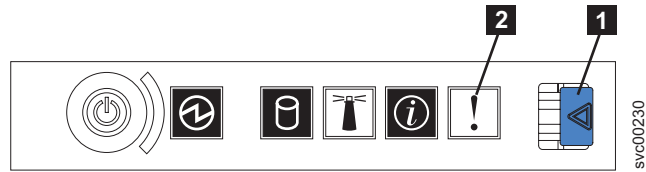

Figure 97. SAN Volume Controller 2145-8G4 operator-information panel
1. Is the Error LED, shown in Figure 97 on page 295, on the SAN Volume Controller 2145-8G4 operator-information panel illuminated or flashing?